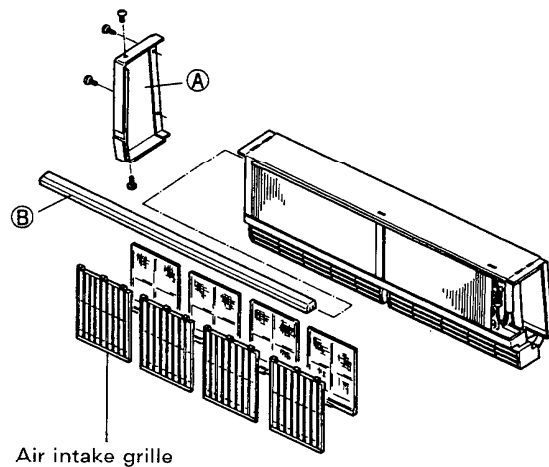

Fig. 3
- 2) Remove the side cover (A).
- 3) Slide the sash (B) sideways to remove, then remove the four air intake grilles (with filters). Fig. 3